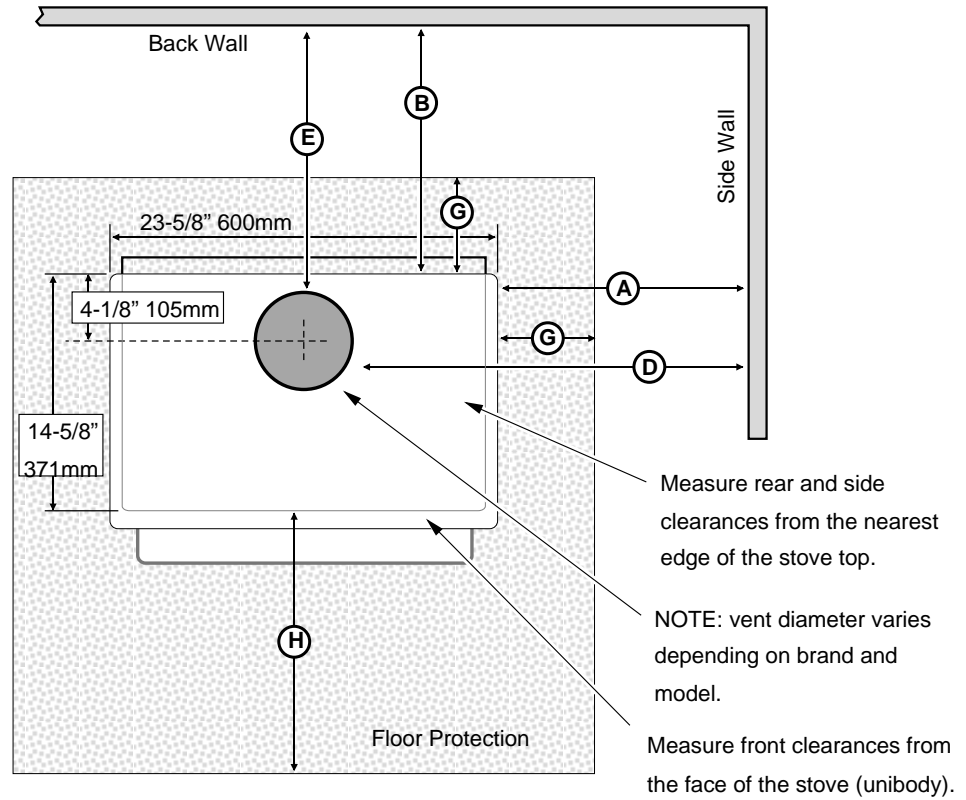
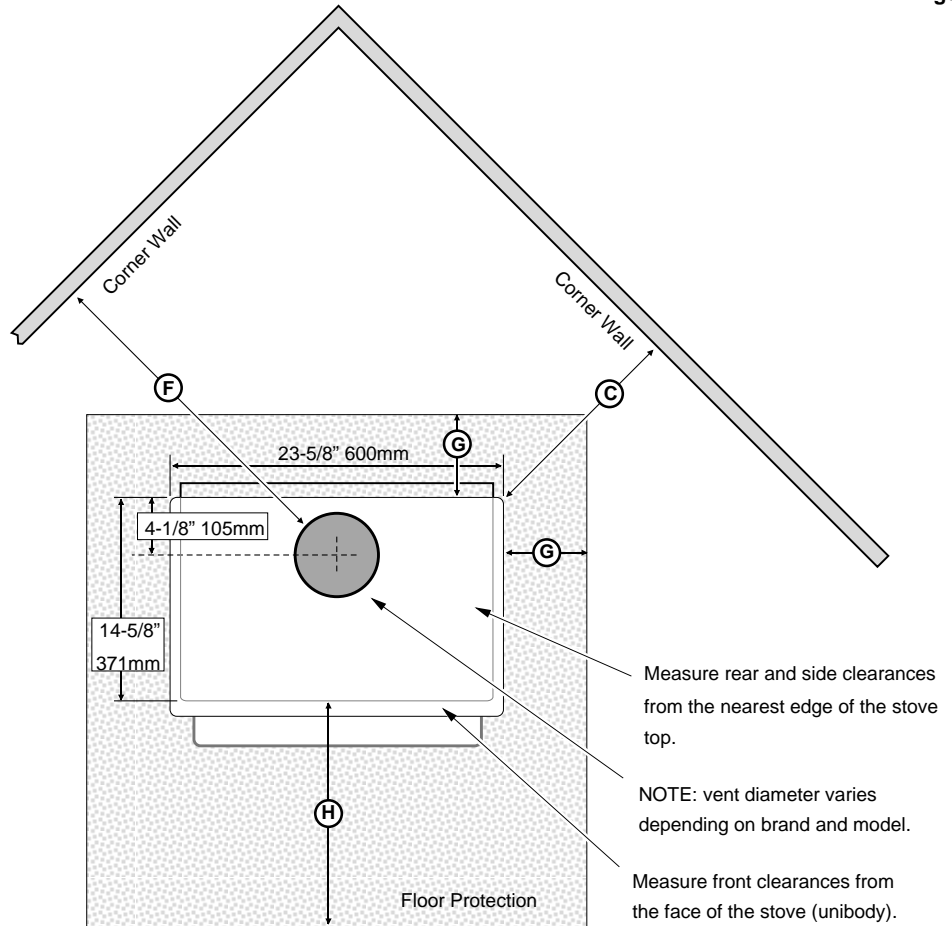

Figure 3
Figure 4
- The following clearances must be met (see Figure 3 and Figure 4)